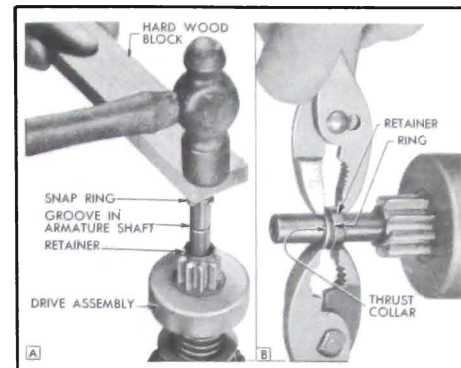

Figure 10-36—Pinion Stop Retainer and Snap Ring Installation
5. Place a new snap ring on drive end of shaft and hold it in place with a hard wood block. Strike block with hammer to force snap ring over end of shaft, then slide the ring down into groove in shaft. See Figure 10-36, View A.
6. Place thrust collar on shaft with shoulder next to snap ring, and move the retainer into contact with ring. Using pliers on opposite sides of shaft squeeze retainer and thrust collar together until snap ring is forced into the retainer. See Figure 10-36, View B.